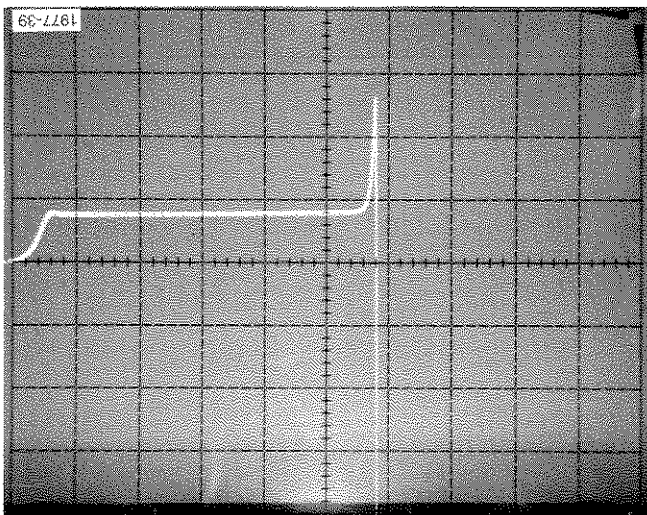

Fig. E-3. + Input bias current.
- b. Check that the horizontal portion of the trace deflects vertically 5 divisions from the display zero reference point; this represents a +Input Bias Current  $\leq 250$  nA (see Fig. E-3).